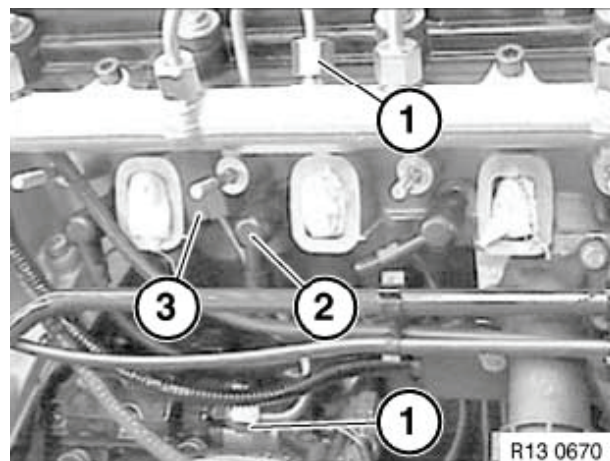

Figure 5-14
18. Remove pump-to-fuel rail high-pressure line (**Figure 5-14, (1)**).
Note: **4BY2 Engines:** Note the position of the rubber mount (**Figure 5-14, (3)**) for reassembly.
19. Remove glow plugs (**Figure 5-14, (2)**). See *Remove and Install Glow Plugs* on page 5-19.